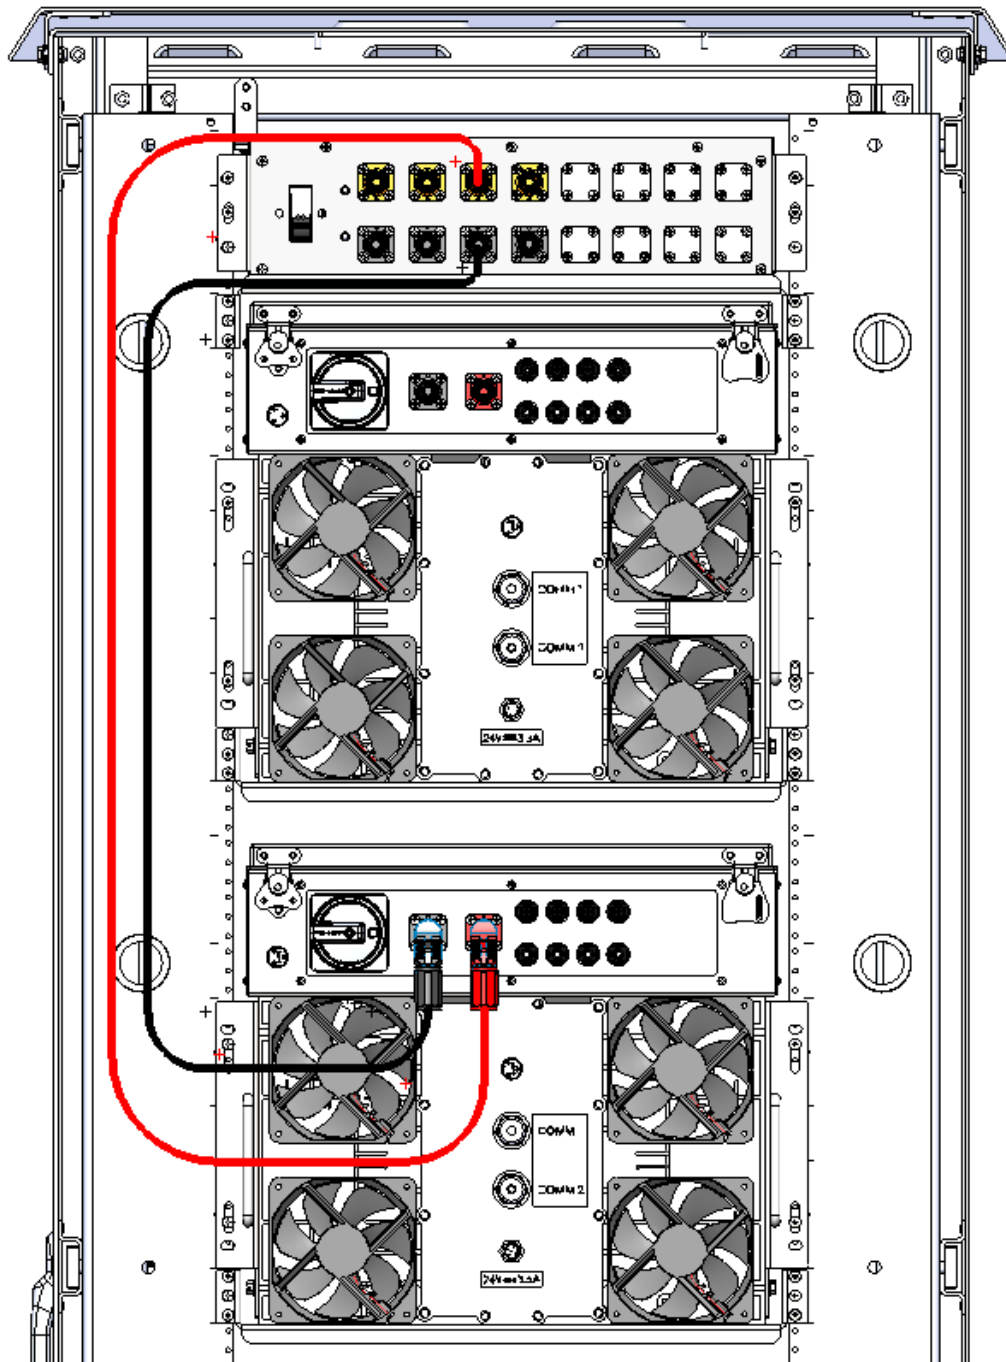

FIGURE 17: SURLOK CABLING ROUTED TO PRIMARY (INPUT) FEED #2
- (2) 5-foot SurLok Cables for SPOT #2 shown in Figure 17.